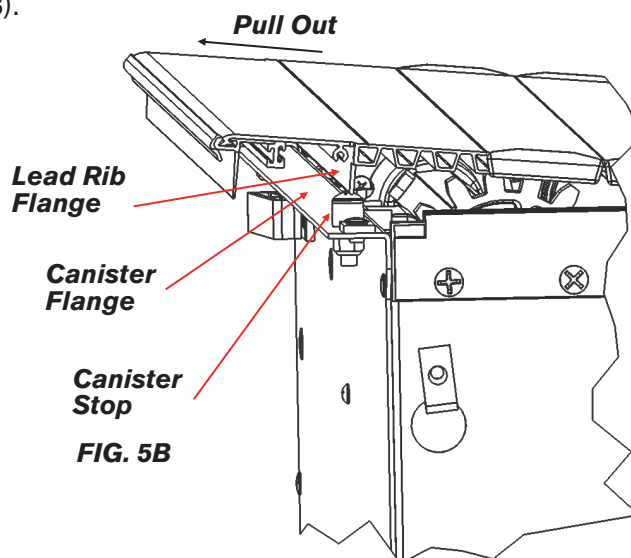

FIG. 5B
- First, make sure that the Lead Rib Flange is in pulled toward the tailgate enough to clear the Canister Flange and Canister Stop (FIG 5B).
Figure 5B shows that the lead rib needs to be pulled out toward the tail gate. Now hook the rail into the rail guide and roll it down making sure to not get the sweep seal folded back into the rail (FIG 5C).